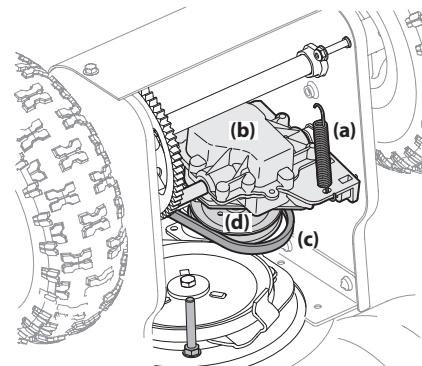

Figure 4-19
- Remove the spring (a) that connects the transmission to a bolt on the engine frame. See Figure 4-19.
- Tilt the transmission (b) forward and position the drive belt (c) onto the transmission pulley (d). See Figure 4-19.
- Reconnect the spring (a) to the bolt on the engine frame and secure the transmission. Reinstall the flange lock nut. See Figure 4-19.